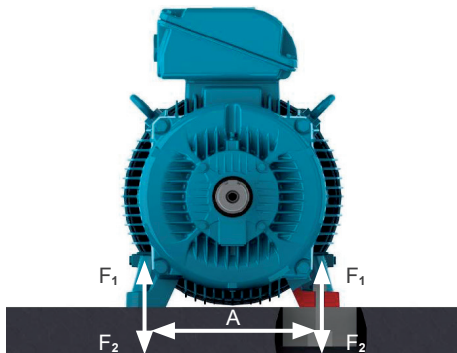

Figure 6.3: Motor installed on a concrete base
The foundation stresses can be calculated by using the following equations (see Figure 6.3 on page 32):
- Metallic bases: are generally used for small-size motors (see Figure 6.3 on page 32).